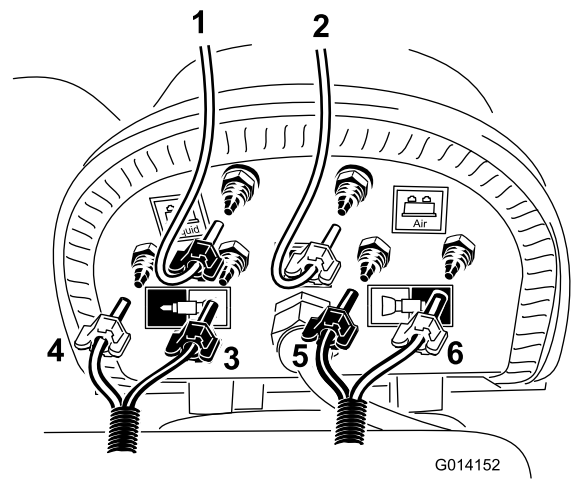

Figure 22
Note: Install the clear tube to the **blue** or water barb on the compressor shown in Figure 22. Use a blue tube clamp to secure both tubes. The sheath of the tubing will require further splitting to accommodate the length of the tank assembly.
- B. Locate the short, loop-back hose previously cut, and install the clear tube to the remaining barb on the black, tank cap shown in Figure 22.
- D. Locate the foam hose routed to the left boom, and install the blue and white tube to the locations as shown in Figure 22.
- E. Locate the foam hose routed to the right boom, and install the blue and white tube to the locations as shown in Figure 22.